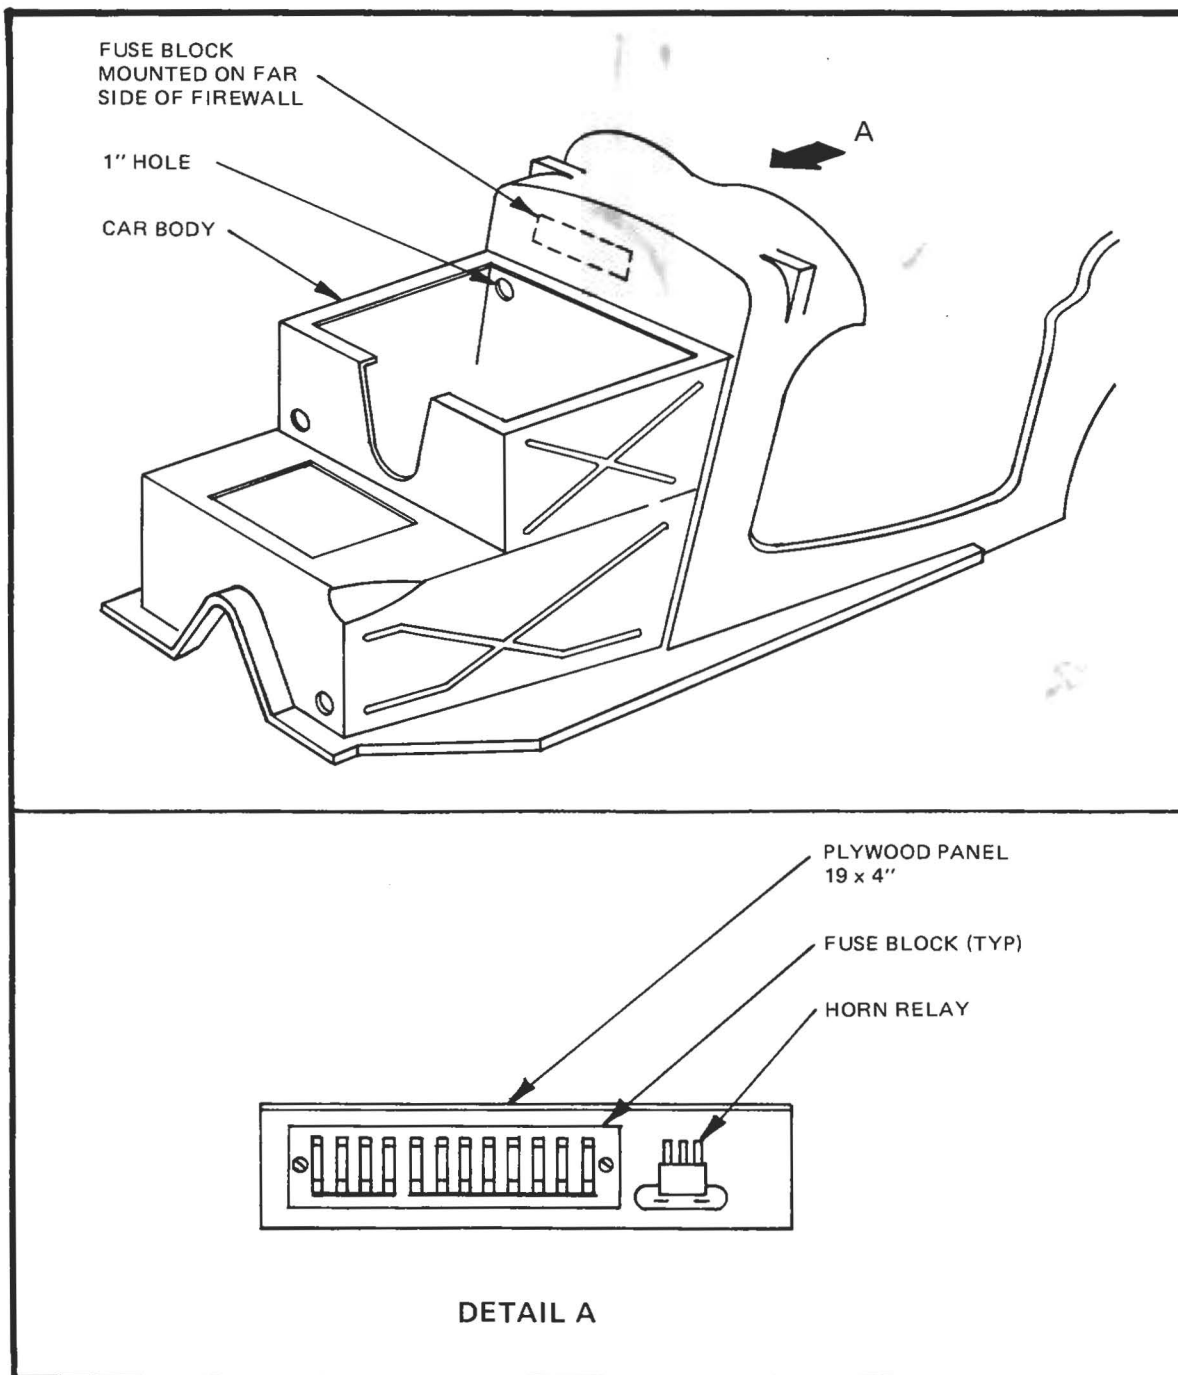

Figure 42
- ☐ Wire dash board with all gauges as indicated in "Appendix C" of this manual. Connections to the main harness and fuse block should terminate on the passenger side. (Refer to Figure 42)